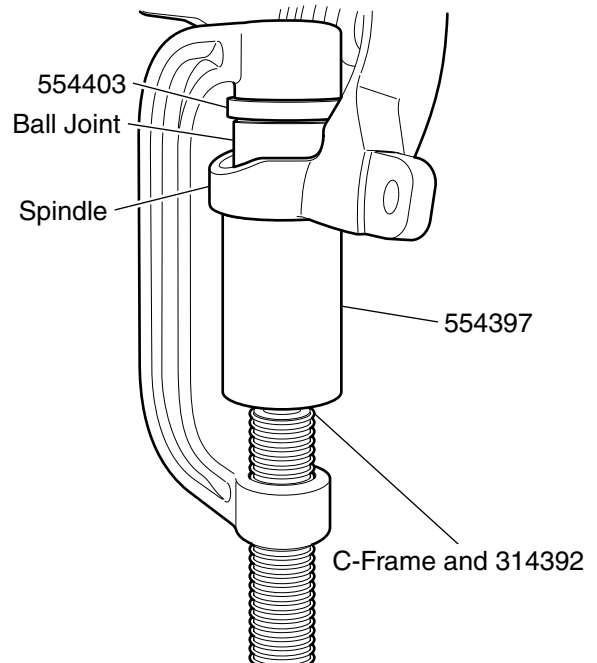

Figure 3. Ball Joint Installation
3. Position 554403 and 554397 on the ball joint as shown in Figure 3.